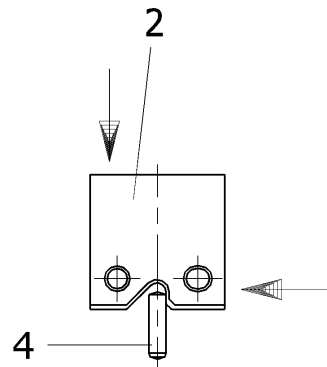

Fig.2
6. Press the profile knife gently on the tool seat and against the positioning pin (4), (see Fig. 2).